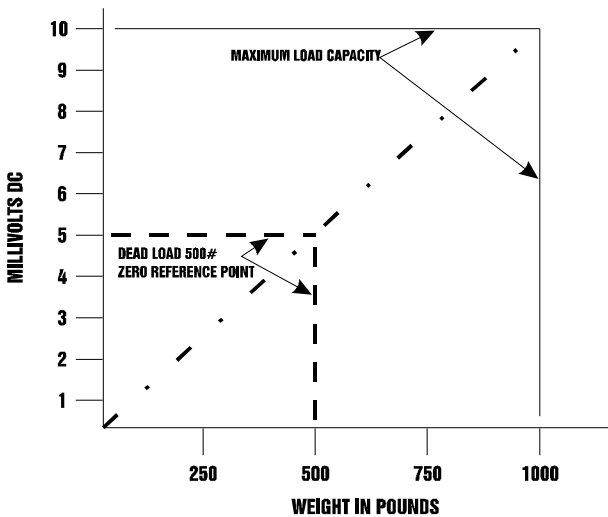

FIG. 5-2 MILLIVOLTS/WEIGHT SCALE
- e. A zero reference point will vary from system to system depending on the “Dead Load” of the vessel. “Dead Load” is the weight of the vessel and appurtenances only, with no product loaded. In our example we will assume the dead load to be 500 pounds. (See Fig. 5-2)